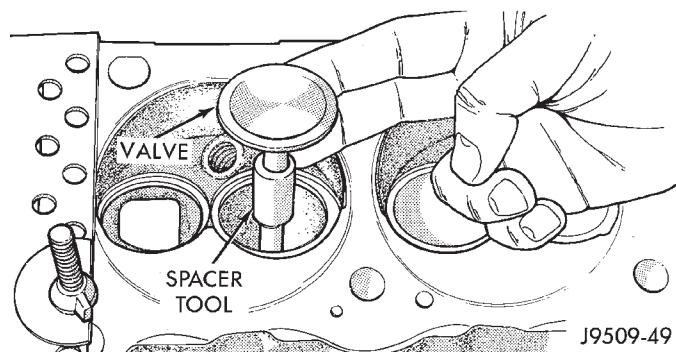

Fig. 57 Positioning Valve with Tool C-3973
- (1) Install Valve Guide Sleeve Tool C-3973 over valve stem and install valve (Fig. 57). The special sleeve places the valve at the correct height for checking with a dial indicator.